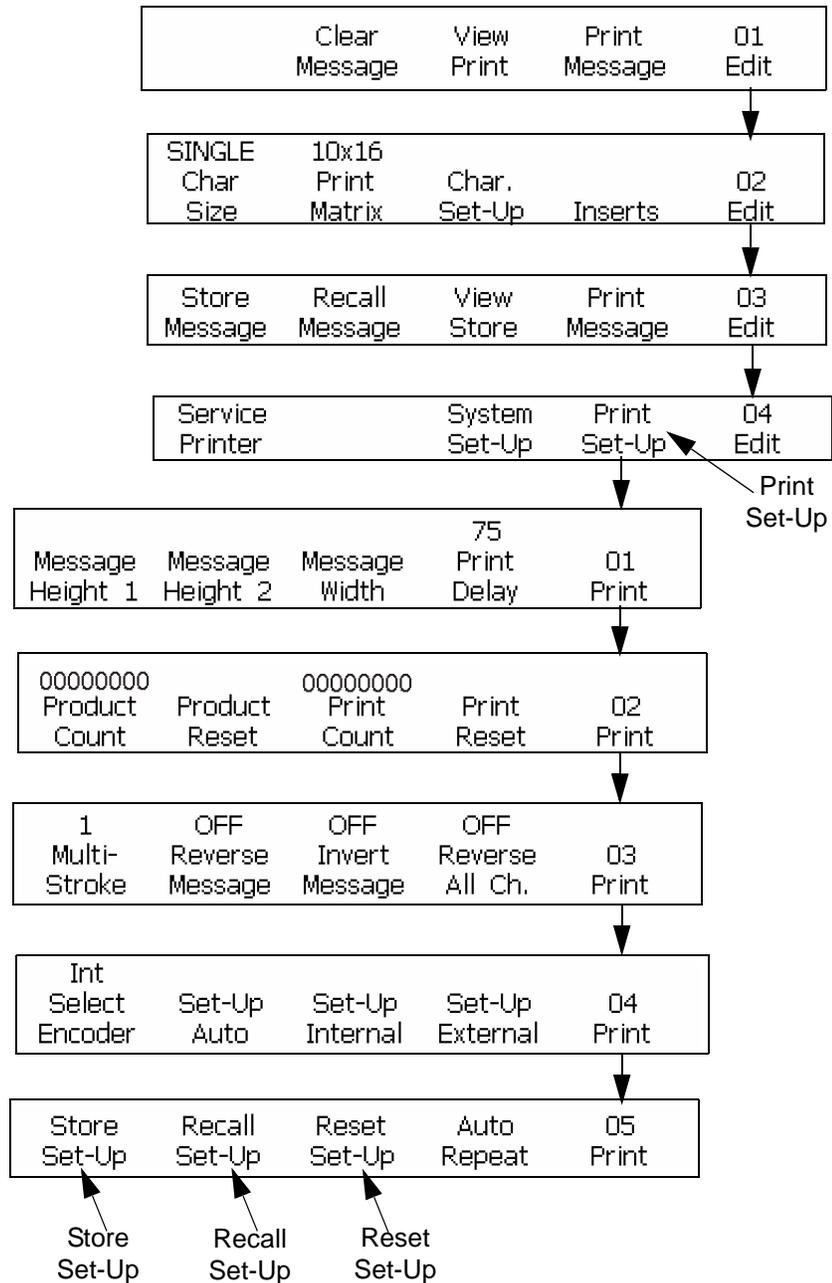

Figure 7-14: Access Frame <05 Print>
- 1 Begin with the Frame <05 Print>. Refer to Figure 7-14 on page 7-25.